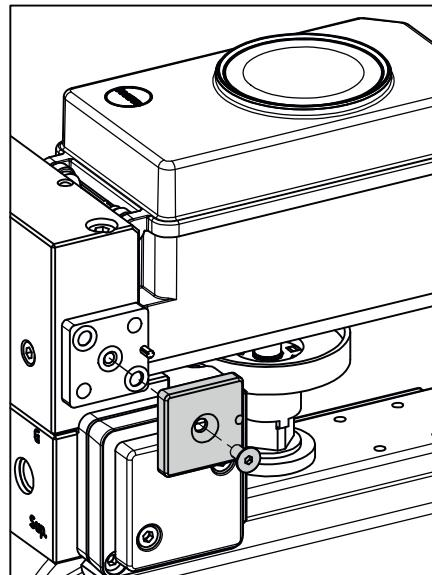

Fig. 5-14:Mounting the turnboard
9. Mount the turnboard marked '*Doppel*' for double-acting actuators or the turnboard marked '*PST*' for single-acting actuators with partial stroke testing. See Fig. 5-14.